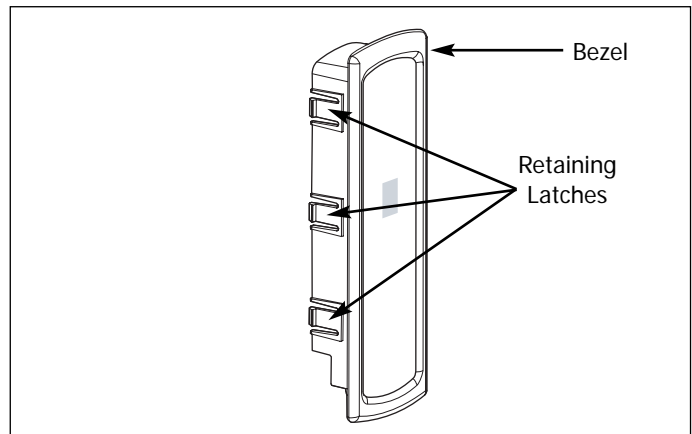

Figure 5-8. Control Removal
1. Using a small flat bladed screwdriver, carefully pry under the bezel until the retaining latches release from the door assembly. Pull control assembly straight out to avoid damaging the electrical connection wire prongs. (See Figure 5-8)